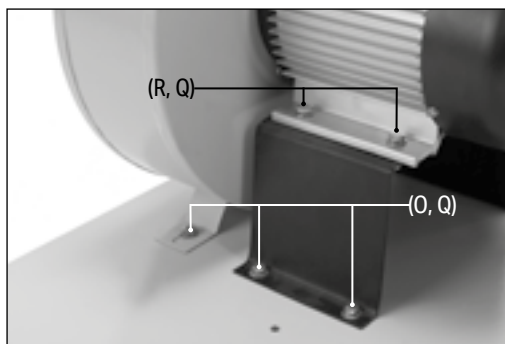

Fig. 3
- c. Secure each bolt with another washer (Q) and an M8 nut (R) (Fig. 3).
3. Attach the motor/ducting unit and motor support to the base plate (Fig. 3):
- b. Pass six M8 x 16mm bolts (O) each through a washer (Q) and down through the holes in the motor and support assembly, and tighten them securely. The holes in the base plate are threaded to receive the attaching bolts.